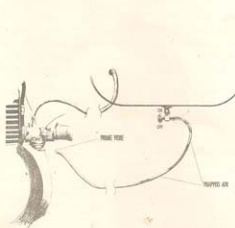

Figure 3 — Fuel Line System
Your AMPHICAT is provided with an ON-OFF Valve-Filter assembly on the bottom of the Fuel Tank, see Figure 3.
- Open the Fuel Valve, see Figure 3.
To drain the fuel tank, turn the fuel ON-OFF Valve off, pull fuel line off at the ON-OFF Valve, turn the ON-OFF Valve on and drain into suitable container. Replace fuel line and turn ON-OFF Valve OFF. Remove any spilled gas with dry cloth. Check for leakage when the fuel tank is refilled. See Figure 3, Page 5.